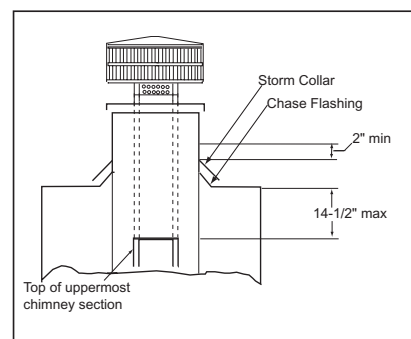

Figure 20C - Installing a TR342 Round Telescoping Termination Cap
- For installations utilizing a TR342 telescoping round termination cap, the uppermost chimney section must be below the top of the chase top, but not more than 14-1/2" below the top of the chase top flashing collar. See Figure 20C.